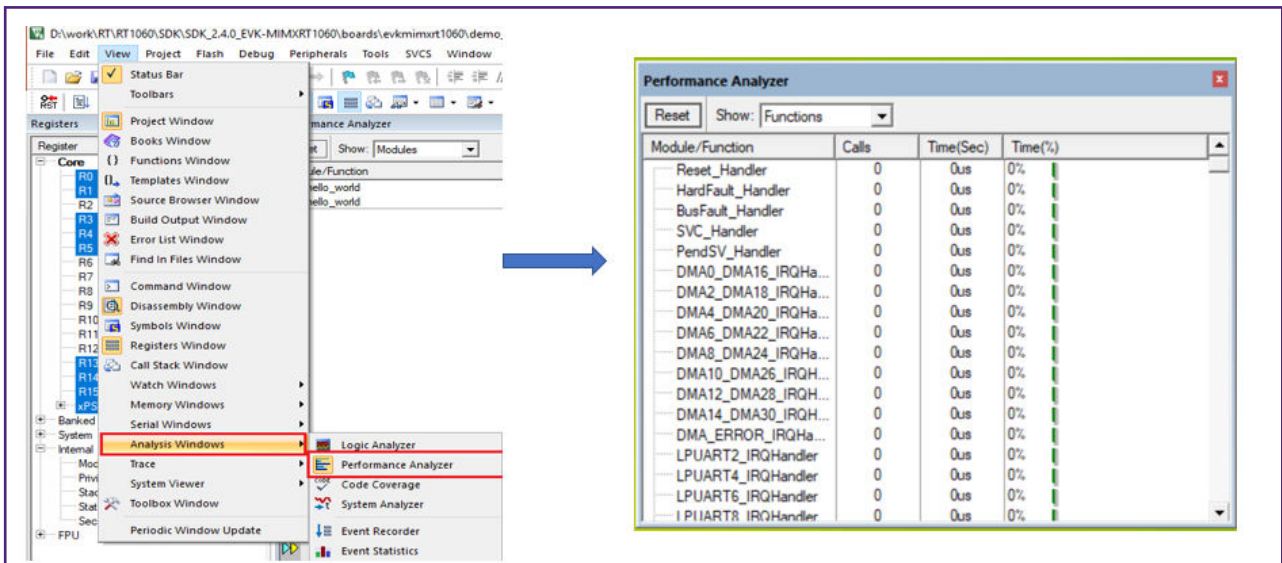

Figure 15. Performance Analyzer window
3. Figure 15 shows the Performance Analyze window.